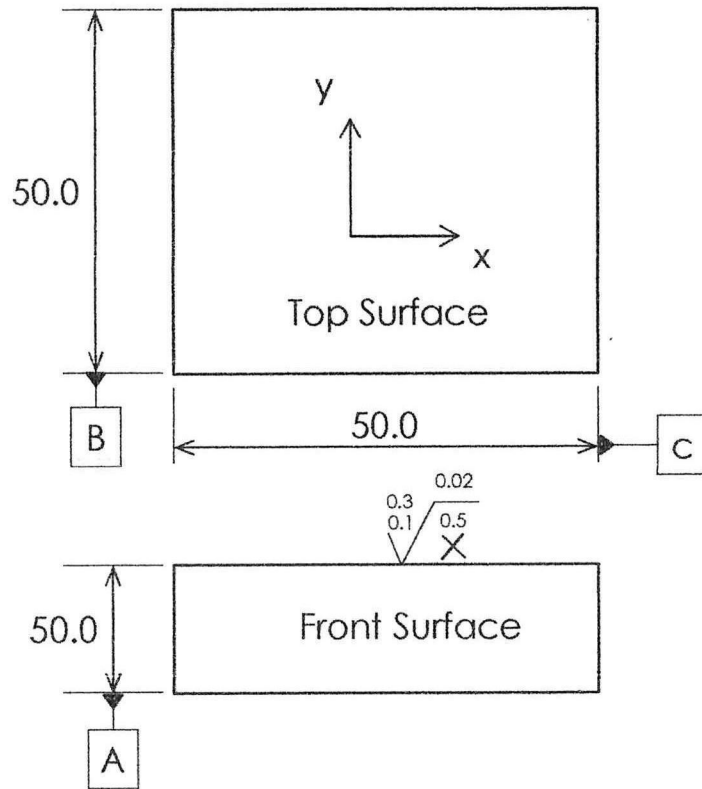

Figure Q2
- (a) Metrology can be categorized into **THREE (3)** types. Identify all those types and explain at least **ONE (1)** of them. (6 marks)
- (c) Too many measuring activity will consequently increase the production lead time. Discuss at least **THREE (3)** factors need to be considered in implementing measurement process. (6 marks)
- (d) Measurement System Analysis is applied to evaluate the statistical properties of process measurement system. The system evaluate the measurement system errors. Explain all **THREE (3)** components considered in evaluating measurement accuracy. (7 marks)
- (d) A metal block need to be machined to get a flat surface with roughness need to be controlled according to part drawing. From the part drawing in **Figure Q2**, demonstrate the surface roughness measurement method including the measuring direction, sampling length and juggement value. (7 marks)